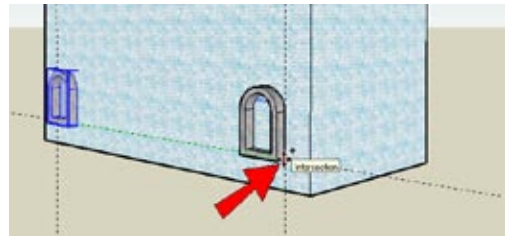

Figure 1-26
- Press Ctrl/Option, and click the second move point at the intersection of the right and bottom construction lines (Figure 1-26).